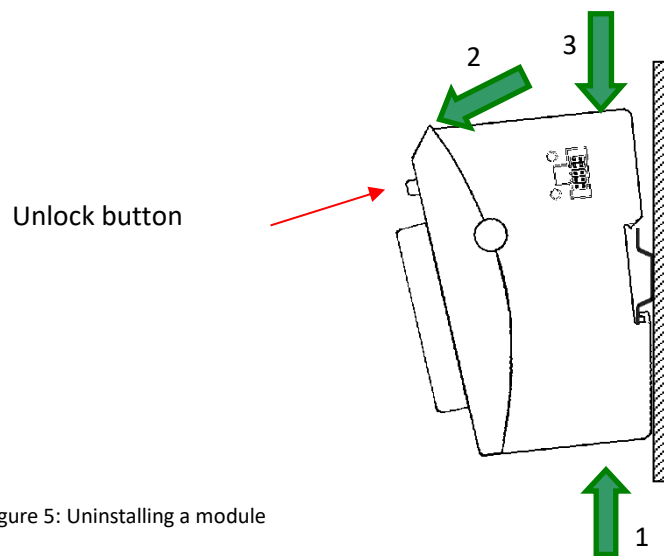

Figure 5: Uninstalling a module
- Push down the unlock button (see Figure 5: Uninstalling a module) of the module that you wish to disconnect from the module to the left of it.